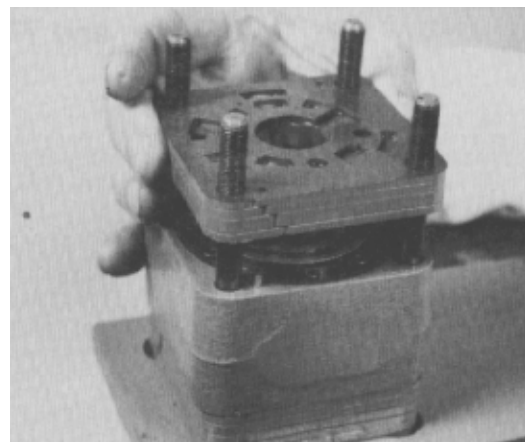

Figure 113
32. Stack the isolation manifold (4 plates bonded together) onto the metering ring, aligning the grooves on the side of the manifold with the grooves on the side of the upper cover plate (Fig. 113). Align the alignment pin holes with the alignment pins in the metering ring. The isolation manifold surface without the recessed slots must be toward the metering ring.